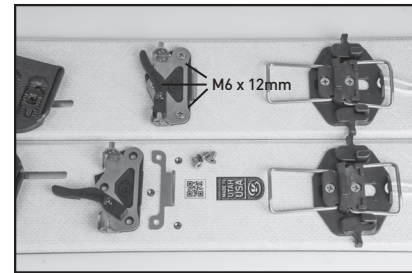

Figure 7
Locate (3) M6 x 12mm (silver finish) Flat Head screws over the inserts and fully tighten all screws. Repeat for other half. **(See Figure 7)**